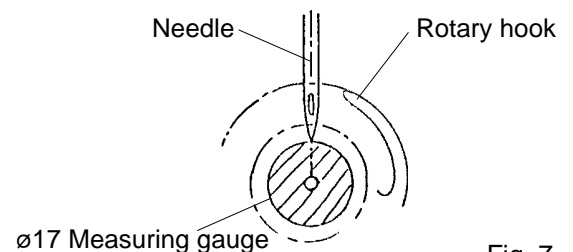

Fig. 7
- Check the needle depth on all heads. Pull white plastic f17 measuring gauge in and out of rotary hook in fig. 7. If height gauge brushes lightly against tip of needle, needle height is correct. If not, loosen needle bar block screw to adjust, then re-tighten after adjustment. (Remove the gauge when finished). Note: Height gauge is contained in tool box.